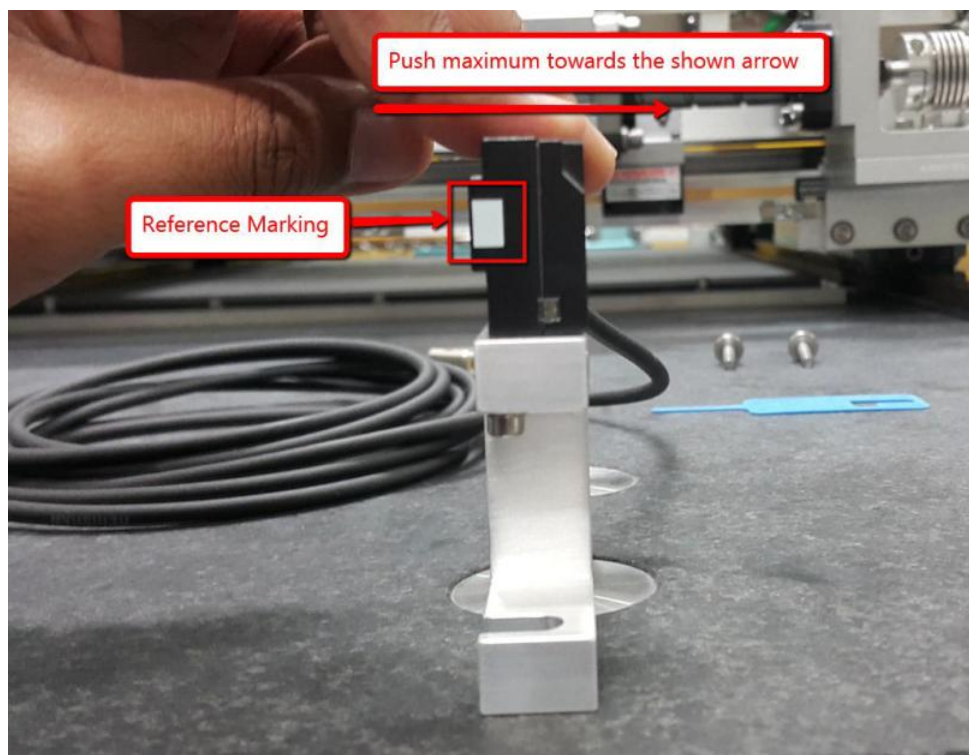

Figure 14 Read Head Encoder
12. Assemble new Y-Axis Read Head Encoder to the Read Head Encoder Bracket as shown in Figure 14 by using SHCS M3x20 (2x)